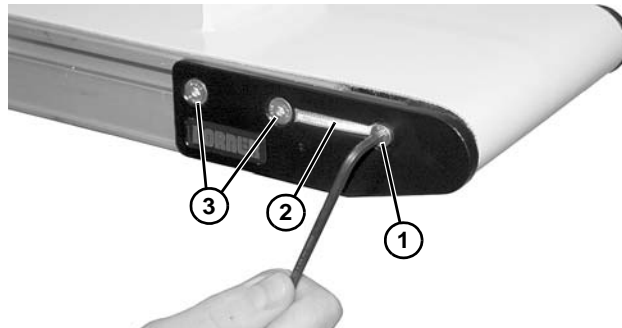

Figure 33
1. On one side of the conveyor, remove screw (**Figure 33, item 1**) and remove dust cover (**Figure 33, item 1**), if installed.
2. Remove two fastening screws (**Figure 33, item 3**).